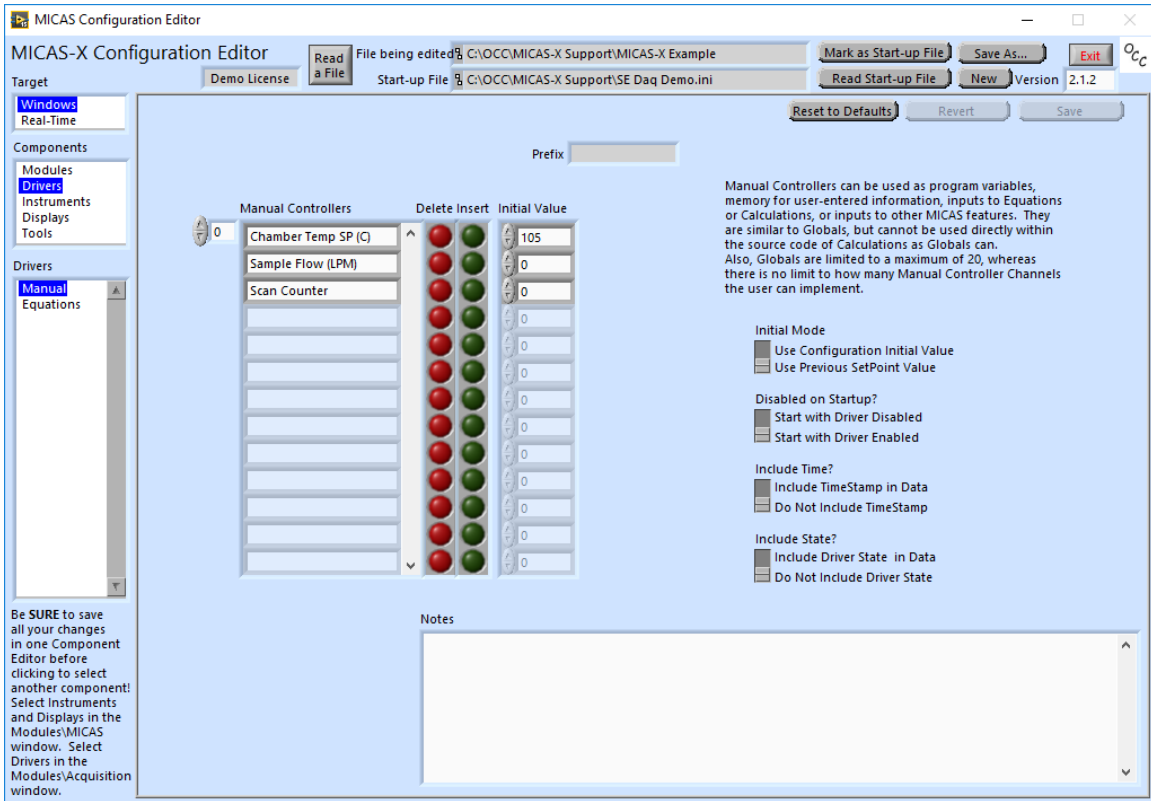

Figure 3. Configuring “Manual” channels for the Manual Driver.
Now select “Drivers” in the “Components” menu, then select the “Manual” Driver in the Drivers list on the left side of the screen. In the “Manual Controllers” section, insert “Chamber Temp SP (C)” in the first slot (short for Chamber Temperature Set Point), “Sample Flow (LPM)” in the second, and “Scan Counter” in the third. Change the initial value of the Chamber Temp SP (C) from 0 to 105. Save the parameters. The screen should look like that shown in Figure 3.